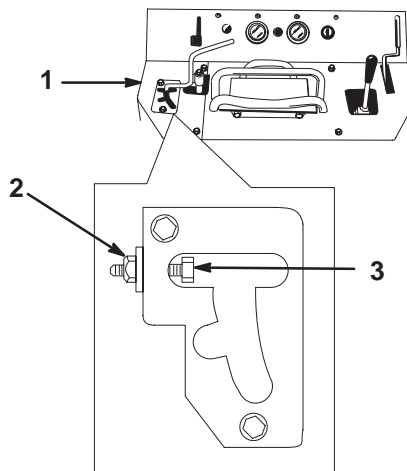

Figure 28
2. Remove the three bolts securing the left control panel cover and remove the cover (Fig. 28).
3. Loosen the jam nut on the adjustment bolt (Fig. 28).